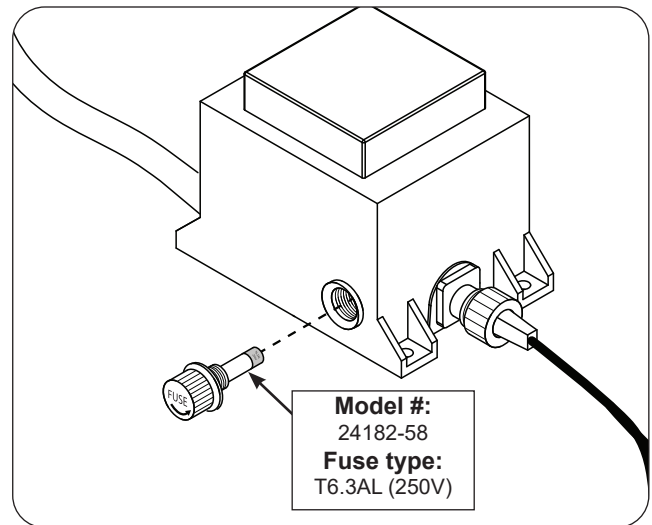

Fig. 41-1 Fuse replacement
3. Locate the fuse holder on the power supply (see Fig. 41-1).